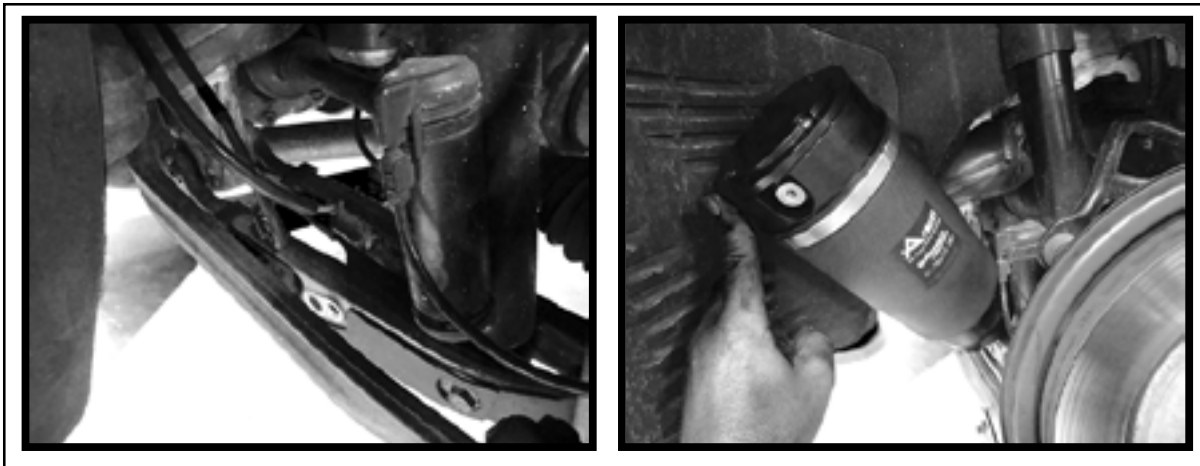

FIGURE 10-34
- 18.0 ALIGN LOGO AND AIR FITTING OUTBOARD, TOWARDS WHEEL (FIGURE 10-34)